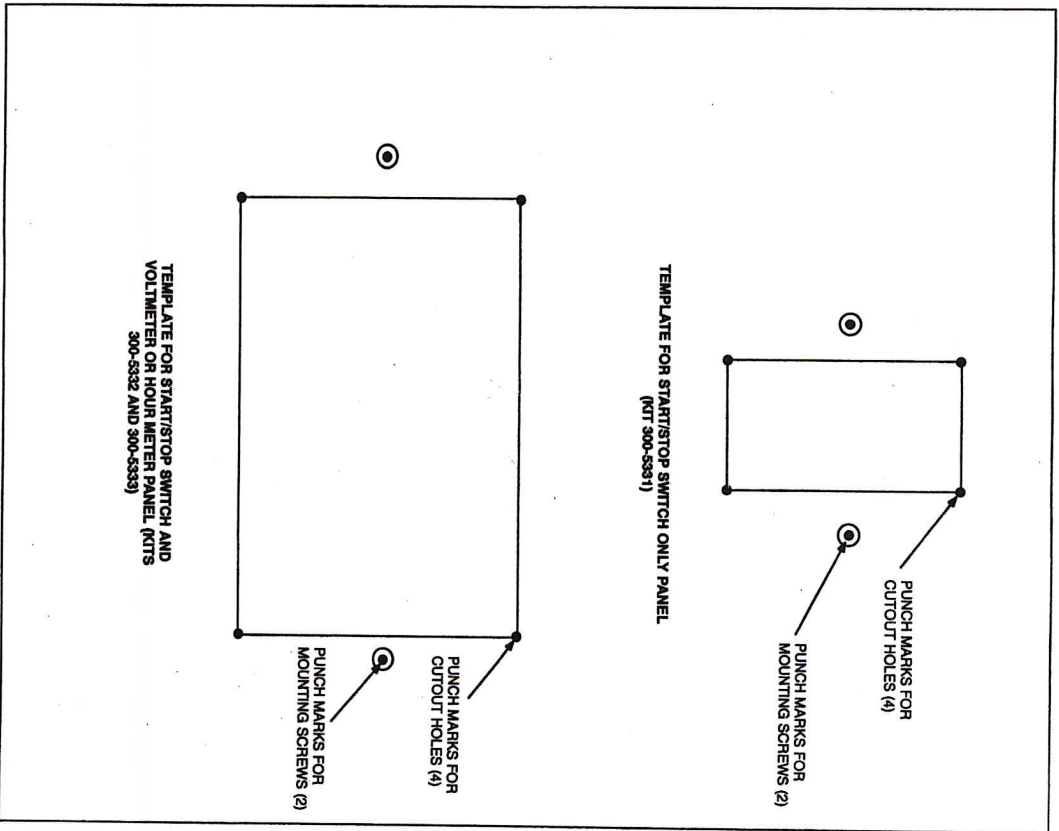

FIGURE 8. CUTOUT TEMPLATES FOR REMOTE CONTROL PANELS
2. Prepare the chosen location for the remote control panel. Be sure to use the proper template from Figure 8.
- a. Cut out the proper template from Figure 8.